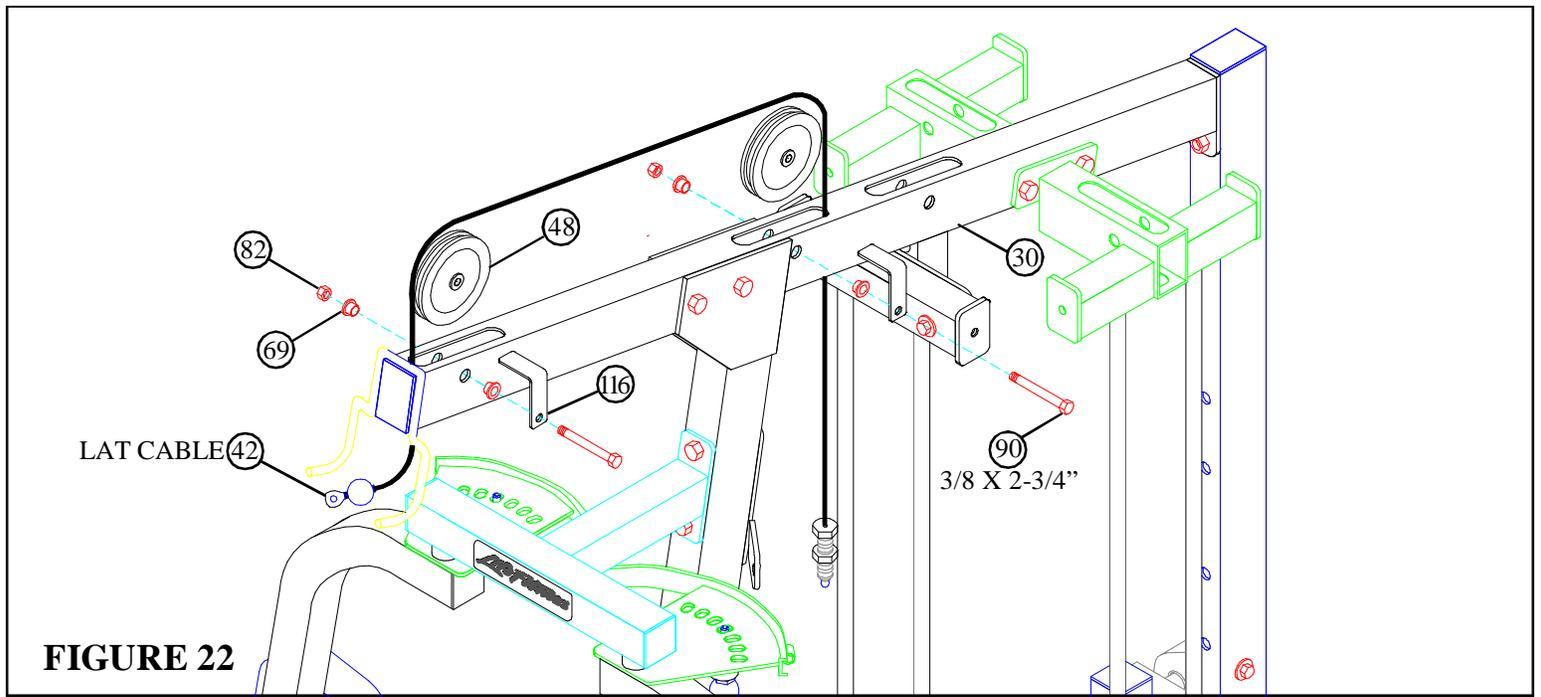

FIGURE 22
- Route the threaded end of the LAT CABLE (42) through the TOP BOOM (30) as shown in FIGURE 22.
- **SECURELY** assemble two 4-1/2" PULLEYS (48) into the slots of the TOP BOOM (30) using two 3/8 X 2-3/4" BOLTS (90), four 3/8" FLANGE SPACERS (69), two 2-7/8" X 2-1/4" CABLE CLIPS (116) and two 3/8" LOCK NUTS (82). (NOTE: Loop the cable around each pulley prior to inserting it in the the slot.)